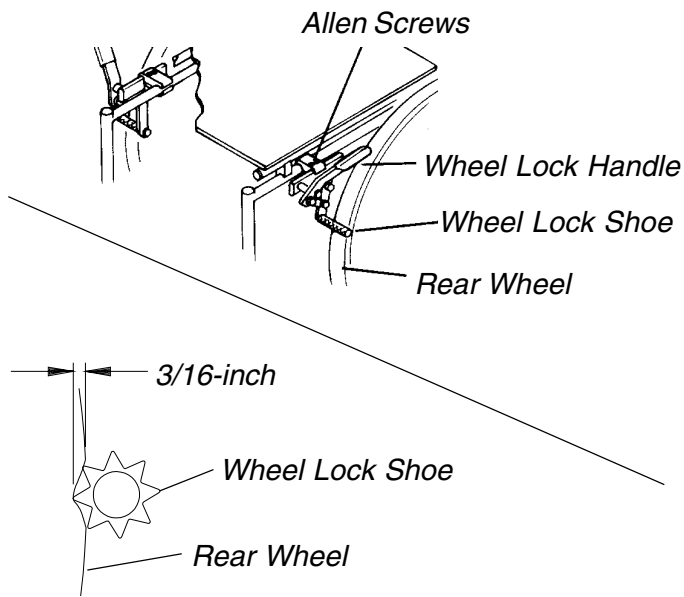

FIGURE 2 - WHEEL LOCK ADJUSTMENT
**WHEEL LOCK ADJUSTMENT (FIGURE 2)**
1. Loosen the two (2) allen screws that secure the wheel lock assembly to the wheelchair frame.
3. Securely tighten the two (2) allen screws.